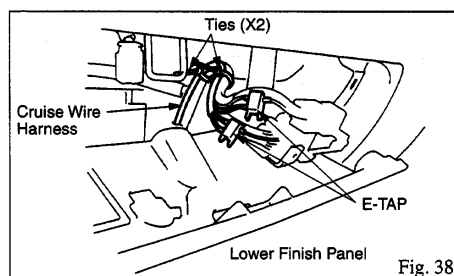

Fig. 38
- (15) Route the wire portion of (E) (vehicle speed) and (F) ("D" position, A/T vehicle) E-taps. (2 tie straps) (Fig. 38)